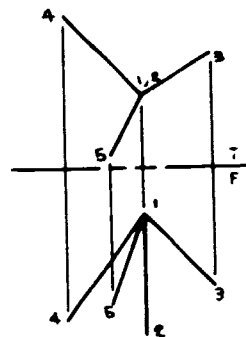

Figure 5.9
2. Sketch a primary auxiliary view of the cables in Figure 5.9 which show their true lengths.